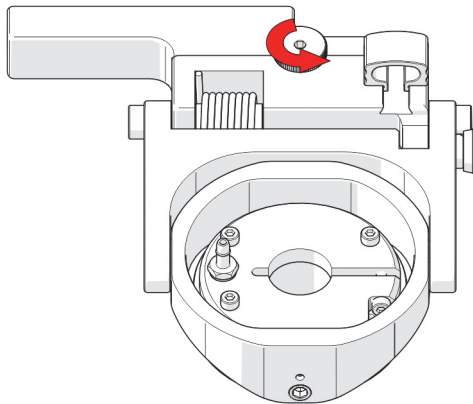

Figure 2-90 Loosen knob
2. Rotate the probe holder adjustment knob (see Figure 2-90 on page 115).